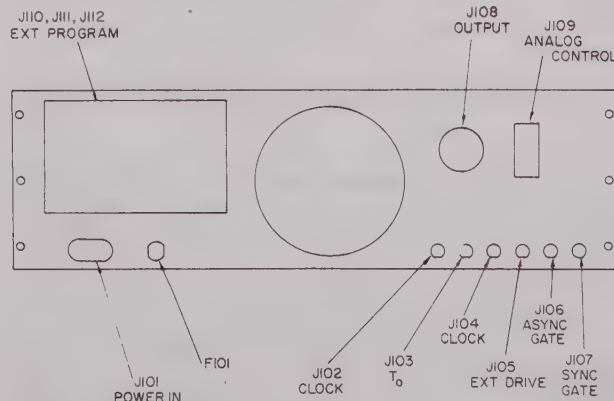

Figure 2-2 Rear Panel Connectors
b. Rear Panel Connectors (Refer to Figure 2-2)
(1) Trigger Output. Greater than +1.5 V into 50 ohms; greater than +3 V into high impedance. Width 10 to 100 ns depending on frequency. Two additional clock outputs available for master/slave pulse generator operation. Output levels same as trigger output. Clock outputs are nominally 25-30 ns early with respect to trigger output.